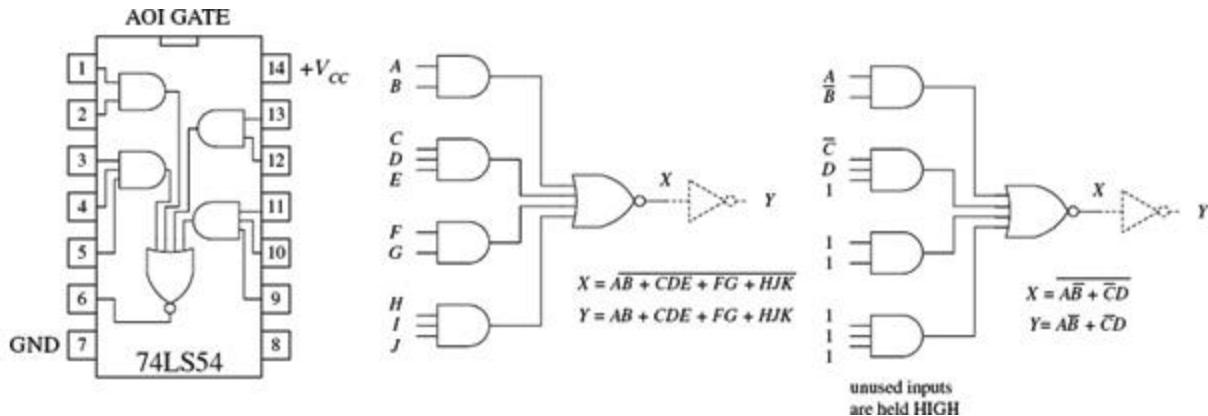
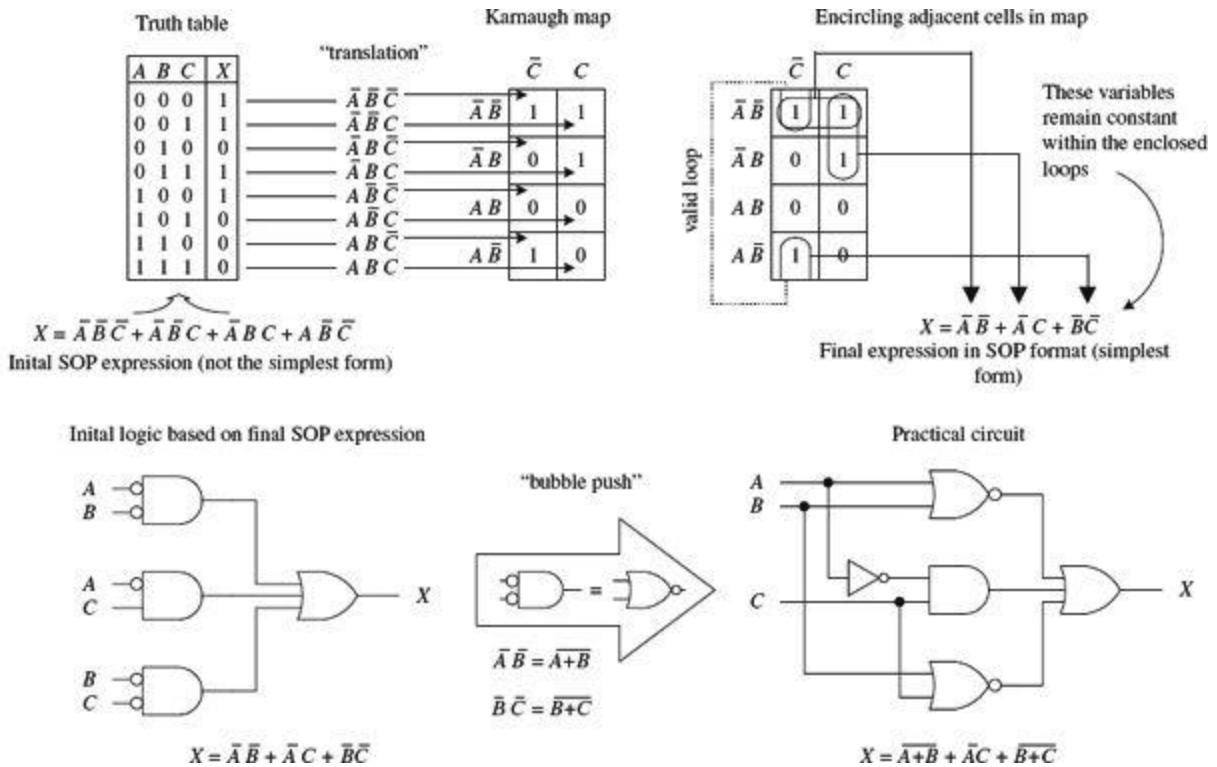

FIGURE 12.26
FIGURE 12.27
A more down-to-earth reason for using an SOP design has to do with the fact that special ICs called AND-OR-INVERTER (AOI) gates are designed to handle SOP expressions. For example, the 74LS54 AOI IC shown in Fig. 12.26 creates an inverted SOP expression at its output, via two two-input AND gates and two three-input AND gates NOR'ed together. A NOT gate can be attached to the output to get rid of the inversion bar, if desired. If specific inputs are not used, they should be held high, as shown in the example circuit in Fig. 12.26. AOI ICs come in many different configurations—check out the catalogs to see what's available.
1. Select a desired truth table. Let's choose the one shown in Fig. 12.27. (If you have only a Boolean expression, transform it into an SOP expression and use the SOP expression to create the truth table; refer to Fig. 12.26 to figure out how this is done.)
2. Translate the truth table into a Karnaugh map. A Karnaugh map is similar to a truth table but has its variables represented along two axes. Translating the truth table into a Karnaugh map reduces the number of 1s and 0s needed to present the information. Figure 12.27 shows how the translation is carried out.
4. Identify the variables that remain constant within each loop, and write out an SOP equation by OR'ing these variables together. Here, *constant* means that a variable and its inverse are not present together within the loop. For example, the top horizontal loop in Fig. 12.27 yields $\bar{A}B$ (the first term in the SOP expression), since \bar{A} 's and \bar{B} 's inverses (A and B) are not present. However, the C variable is omitted from this term because C and \bar{C} are both present.